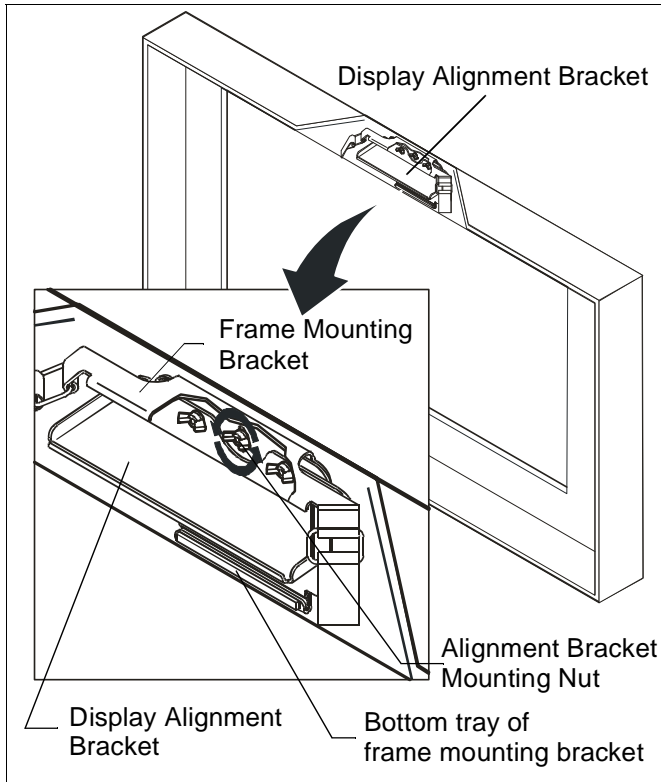
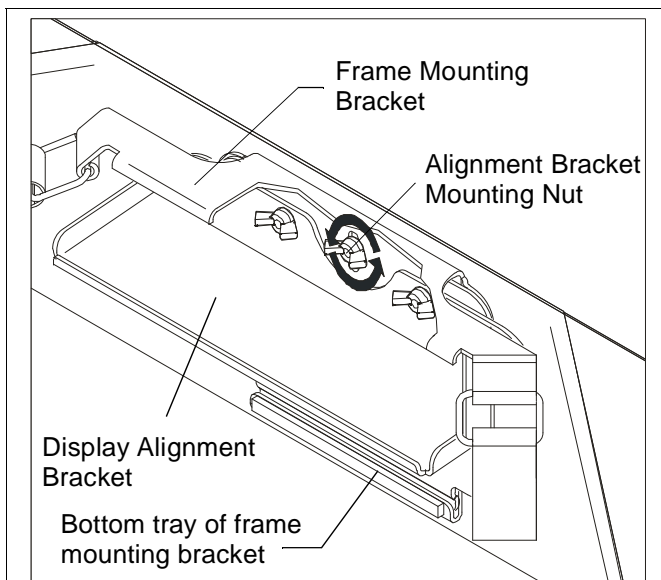

Figure 5
Figure 6
10. Secure display alignment bracket to frame mounting bracket using the alignment bracket mounting nut set aside during step 2. (See Figure 5) and (See Figure 6)